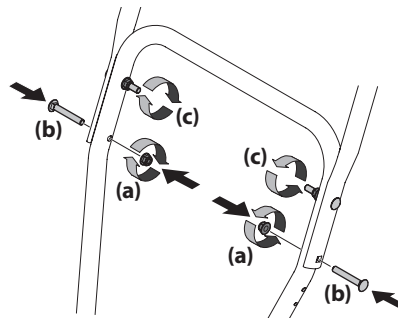
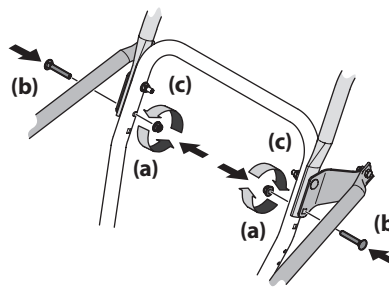

Figure 2-5
Figure 2-6
- Attach the two carriage screws (b) and nuts (a) removed in Step 2. Finish securing the handle by tightening the top two nuts (c) loosened in Step 2. See Figure 2-5 or Figure 2-6 for units with side supports.